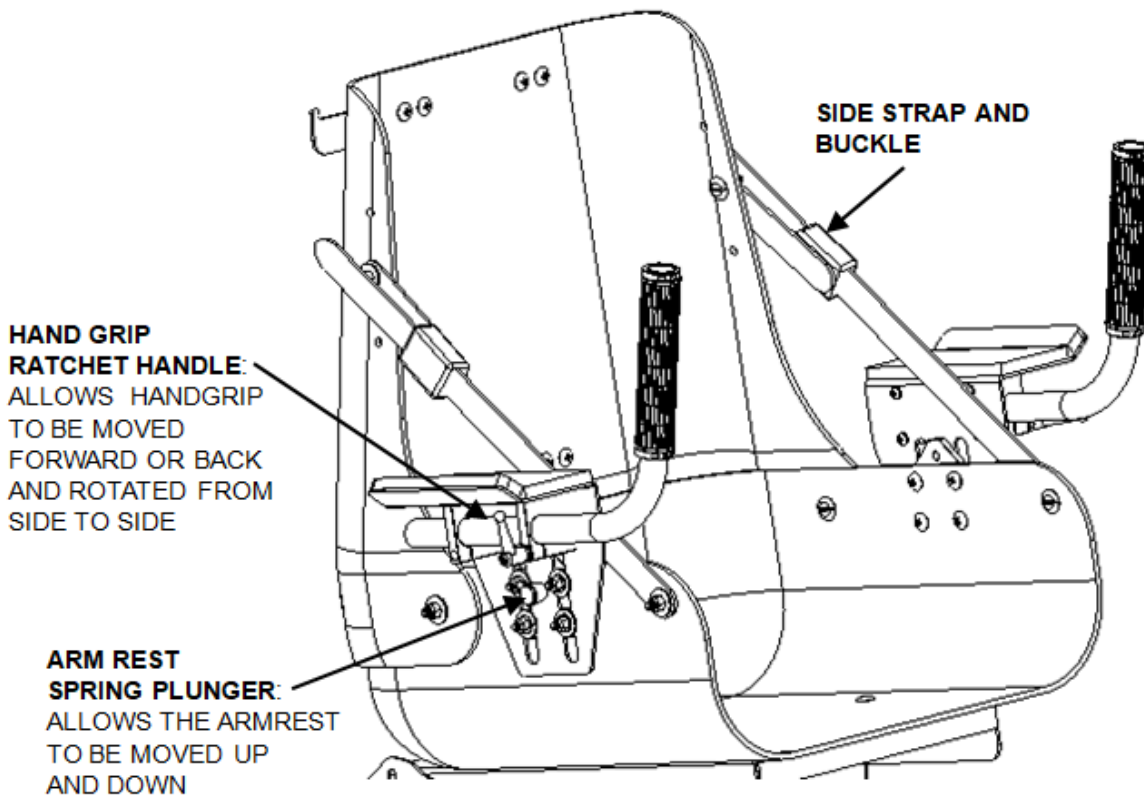

Figure 9. Controls for positioning the seatback, armrest, and handgrips.
4. Angle of the seatback: The angle between the seat bucket and the seatback is adjusted by lengthening or shortening the side strap which runs diagonally from the seatback to the seat bucket. The buckle on the side strap has two adjustments: one to loosen the side strap and tilt the seatback further back and the second, a ratchet mechanism, to tighten the side strap and raise the seatback to a more upright position (Figure 9).
5. Height of the armrests: (Figure 9)
6. Position of the handgrips: (Figure 9)